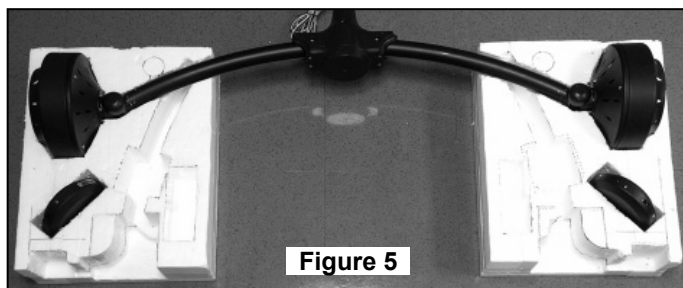

Figure 5
9. Hang the support bar / downrod assembly (assembled earlier) into the the hanger bracket. Make sure the groove of the hanger ball is positioned on the tab of the hanger bracket. (Figure 5)
10. **Carefully ROTATE** the Hanger Bracket and support bar / downrod assembly together to orientate the fan in the desired position. (Figure 5)